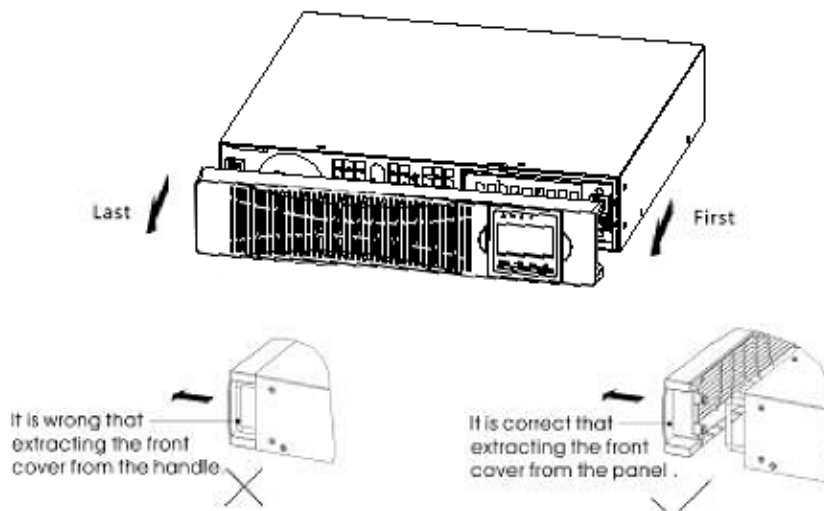

Figure8 Removing the EBP Front Cover
(1) To install the optional EBP(s) for a UPS
a) Remove the front cover of each EBP and UPS (see Figure 8).